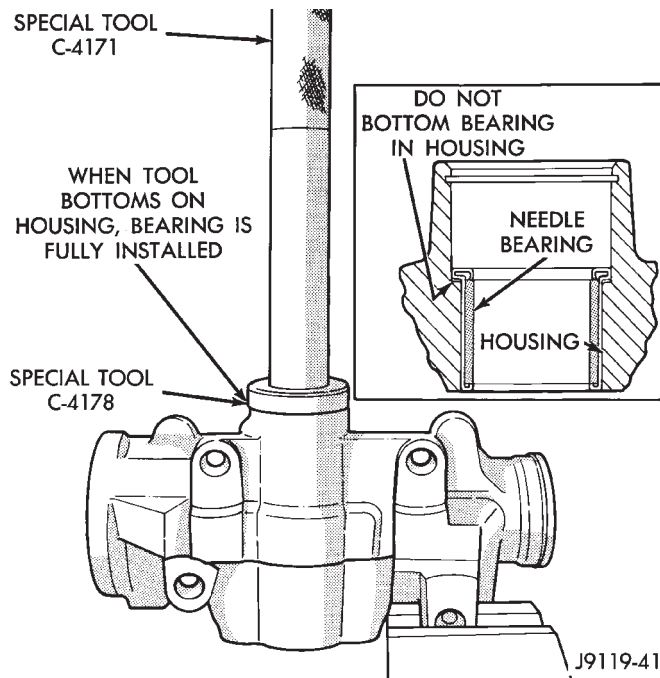

Fig. 38 Pitman Shaft Bearing Installation
(1) Install needle bearing into housing using tool C-4178 and handle C-4171 (Fig. 38).